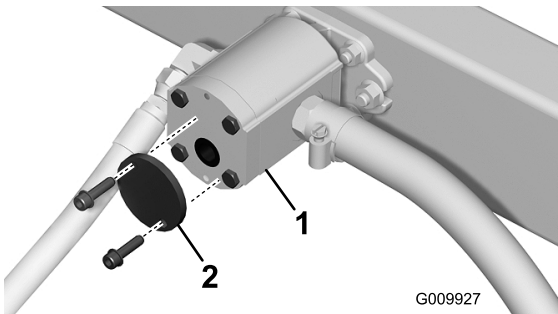

Figure 4
1. Thoroughly clean the area around the hydraulic pump end cap to prevent contamination from entering the pump (Figure 4).
2. Remove the 2 bolts securing the end cap to the hydraulic pump, and remove the end cap (Figure 4).